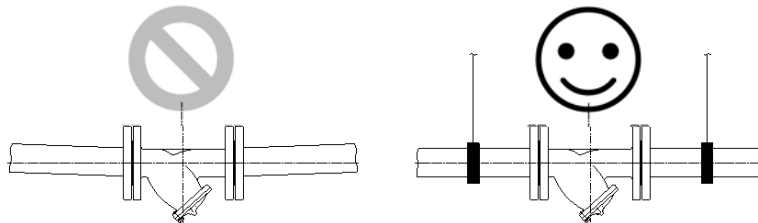

Figure 4 Image of pipe support
- For the strainer with large size and heavy weight, the support is needed in order to reduce load to avoid pipe's bend. See figure 4.